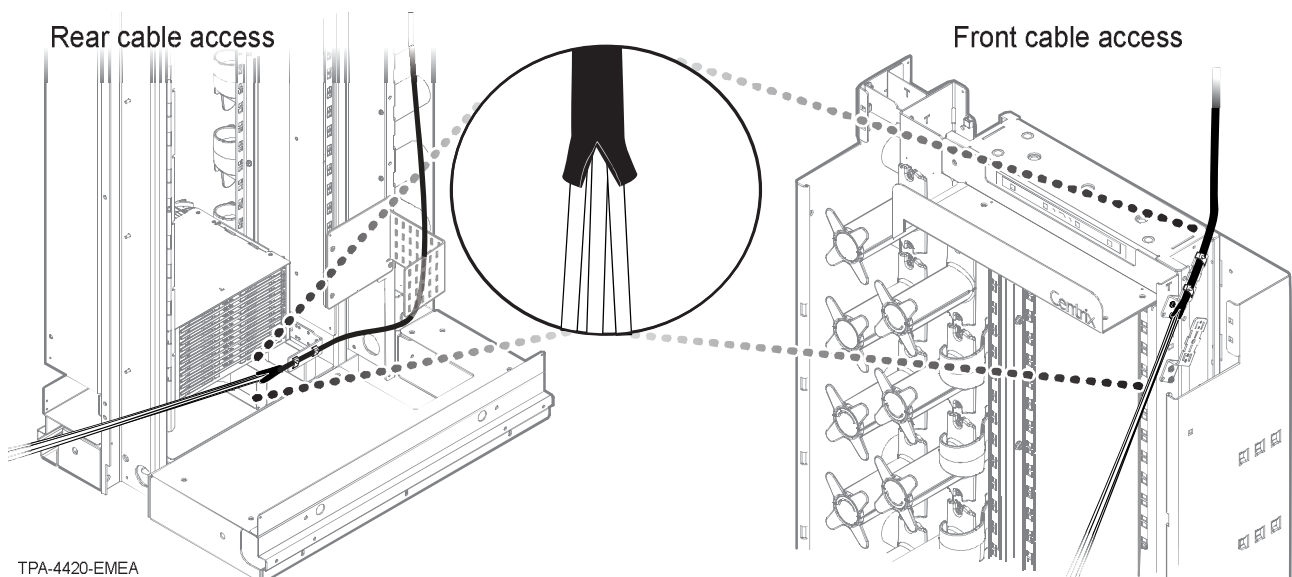

Figure 13
Step 2: Insert transport tubes under slit in sheath (Figure 13).